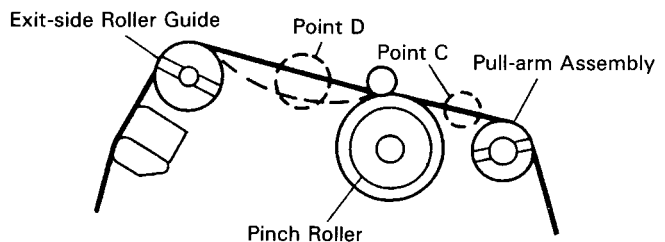

Fig. 3-5
6. After confirming that the tape is not twisted at Point C in Fig. 3-5, check the tape for twisting or bulging at Point D. (Normal bulge : no more than 0.5mm)